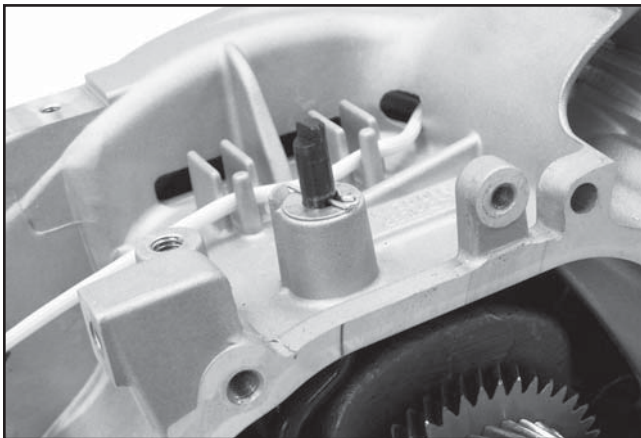

Figure 11-17. Installing Thrust Washer and Hitch Pin.
8. Install the second flat washer onto the shaft. Position the shaft so the flat index end of the shaft faces to the left (9 o'clock position) and insert the hitch pin from the PTO side. See Figure 11-17.